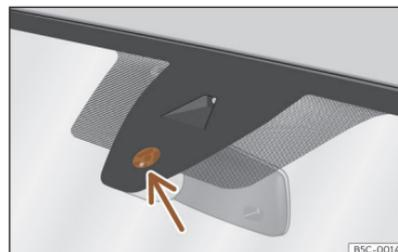

Fig. 109 Rain sensor sensitive surface
The possible causes of anomalies and erroneous interpretations in the sensitive surface area >>> Fig. 109 of the rain sensor are, among others:
- **Dirt:** dry dust, wax, coating on glass (Lotus effect) or traces of detergent (car wash) may reduce the effectiveness of the rain sensor or make it react more slowly, later or not at all. Regularly clean the sensitive surface of the rain sensor >>> Fig. 109 (arrow) and check for possible damage to the wiper blades.